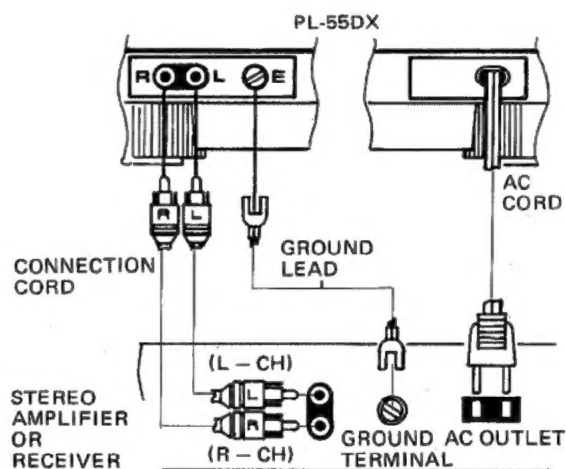

Fig. 11
- Connect PL-55DX leads to PHONO MAG of the stereo amplifier. Be sure to observe L(Left) and R(Right) markings (Fig. 11).
- The lead with a split lug at its end is the ground lead. Connect this lead between the stereo amplifier's GND terminal and PL-55DX's E terminal (Fig. 11).